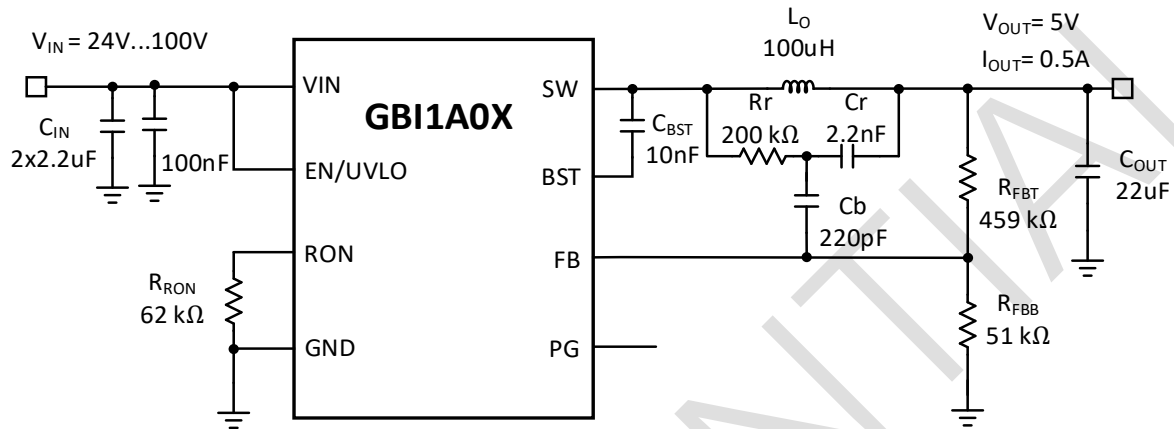
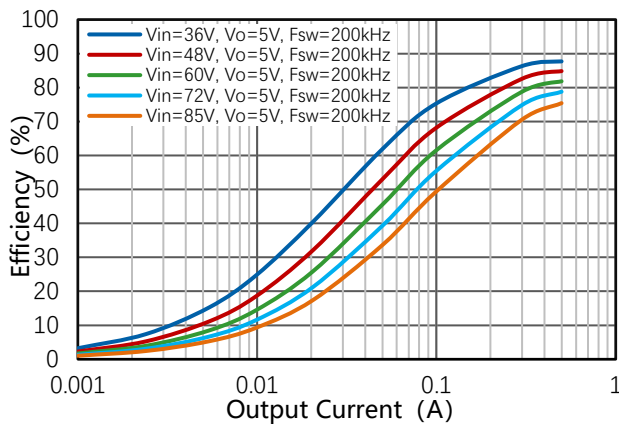

Figure 10-1. 48V Normal Input, 12V/0.5A Output
Figure 10-2. Power Efficiency
The GBI1A00 and GBI1A01 output voltage can be easily set up using a resistor divider network R1 and R2 as shown in the typical application circuit Figure10-1. Use Equation (14) to calculate resistor divider values.
Figure 10-2 to Figure 10-17 are tested based on Figure 10-1 with GB1A00.